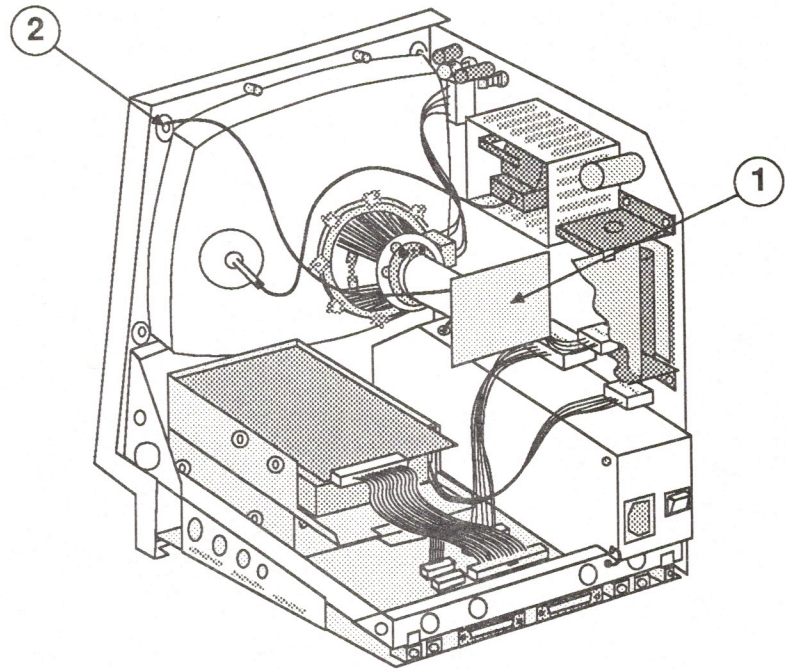

FIGURE 21
3. Replace the video board (Figure 21, #1).
Note: Directions for replacing the fourth CRT mounting screw (Figure 21, #2) are included in the video board procedure.